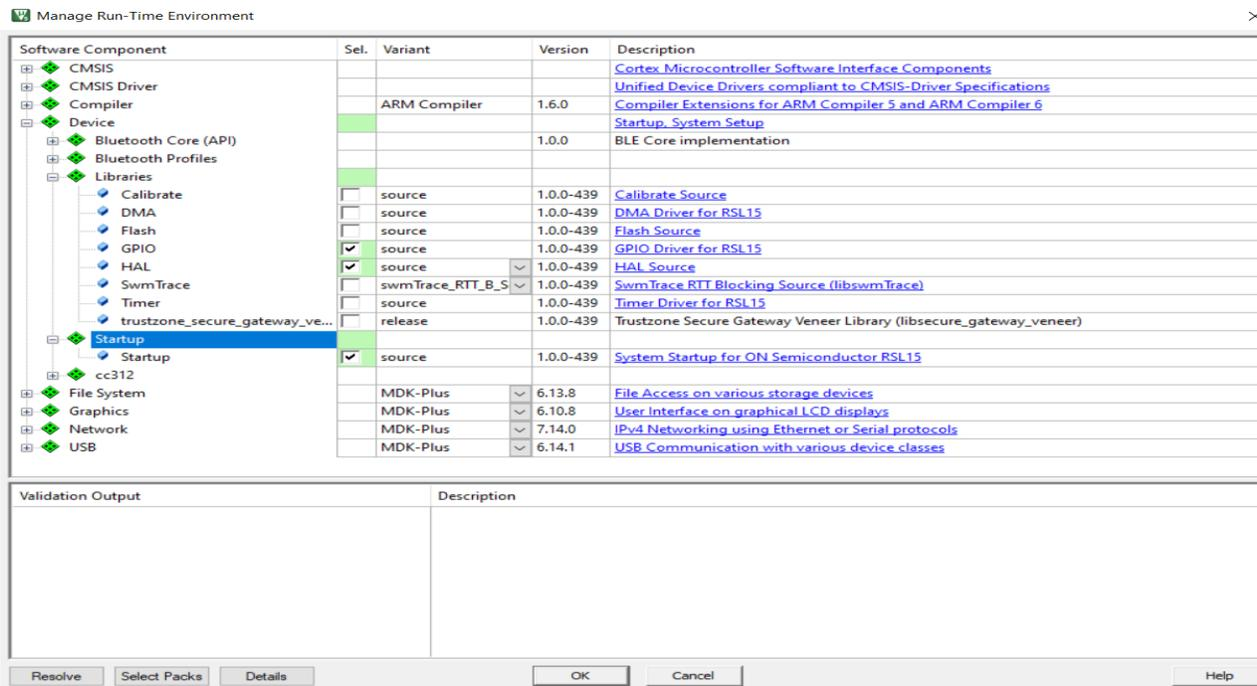

Figure 52. Keil μ Vision Run-Time Environment
- Next, select the software component you are interested in (such as the Startup component chosen in the "Keil μ Vision Run-Time Environment" figure (Figure 52)).